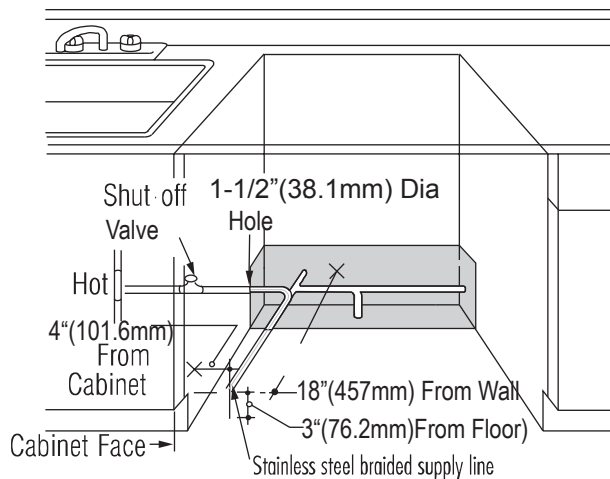

Figure 6
- The hot water line may enter from either side, rear or floor within the shaded area shown in Fig. 6
- The water connection is located on the left front side of the dishwasher. Install the hot water inlet line, using a braided flexible hose (available at most hardware stores). Route the line as shown in Fig. 6 and extend it forward at least 18"(457mm) from the rear wall.